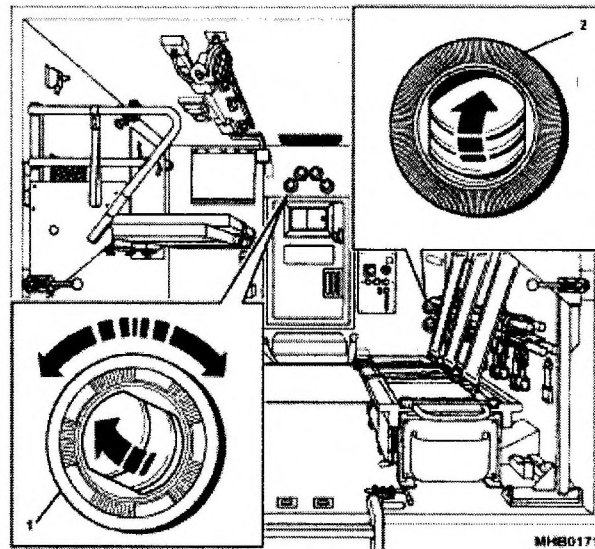

Fig 16 Fresh air and recirculation vents
25 Fresh air vents (Fig 16 (1)) are positioned around the ambulance. These are positioned above the walk through door and in the roof of the compartment. They can be rotated and opened to ensure a continuous flow of air in any given direction.